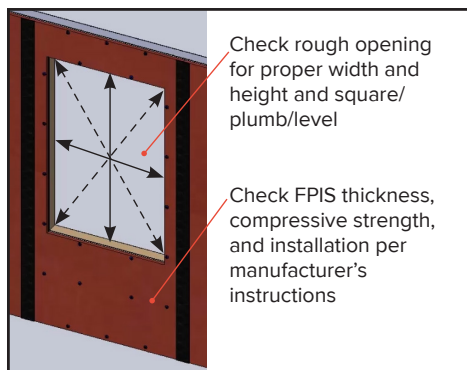

Figure 1. Rough opening and FPIS verification.
- Verify that the rough opening is level, plumb, square, and the size required for the specified window product plus clearance for a rough opening gap as recommended by the window manufacturer (typically the rough opening width and height are ½" to ¾" greater than the window unit dimensions). See Figure 1.